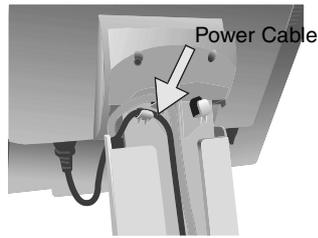

Figure C.4
7. Place the D-Sub and USB cables into the specific hooks indicated in **Figure C.4**.
8. Make sure all cables are resting flat against the stand (**Figure C.4**).